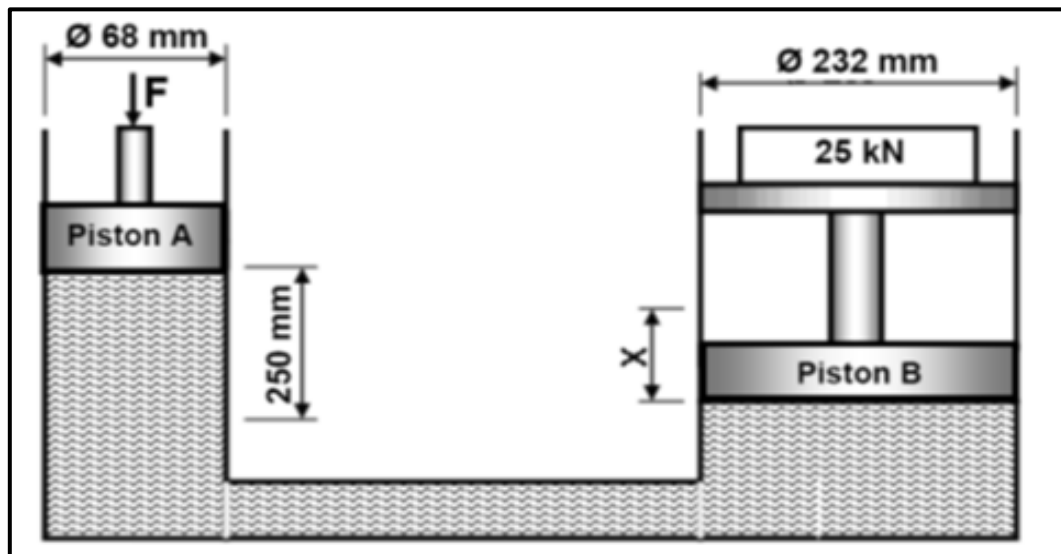

FIGURE 11.4
- 11.4 A hydraulic system is used to lift mechanical machines. The specifications of the system used are represented diagrammatically in FIGURE 11.4 below. The system is equipped with the necessary one-way control valves to prevent the fluid from flowing back after each stroke.